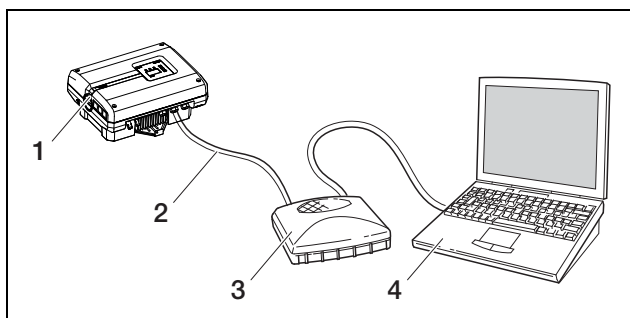

Fig. 22: Connecting inverter and computer with Ethernet cables and switch
- b) via a local network (switch/hub/router and Ethernet cable, see figure 22).